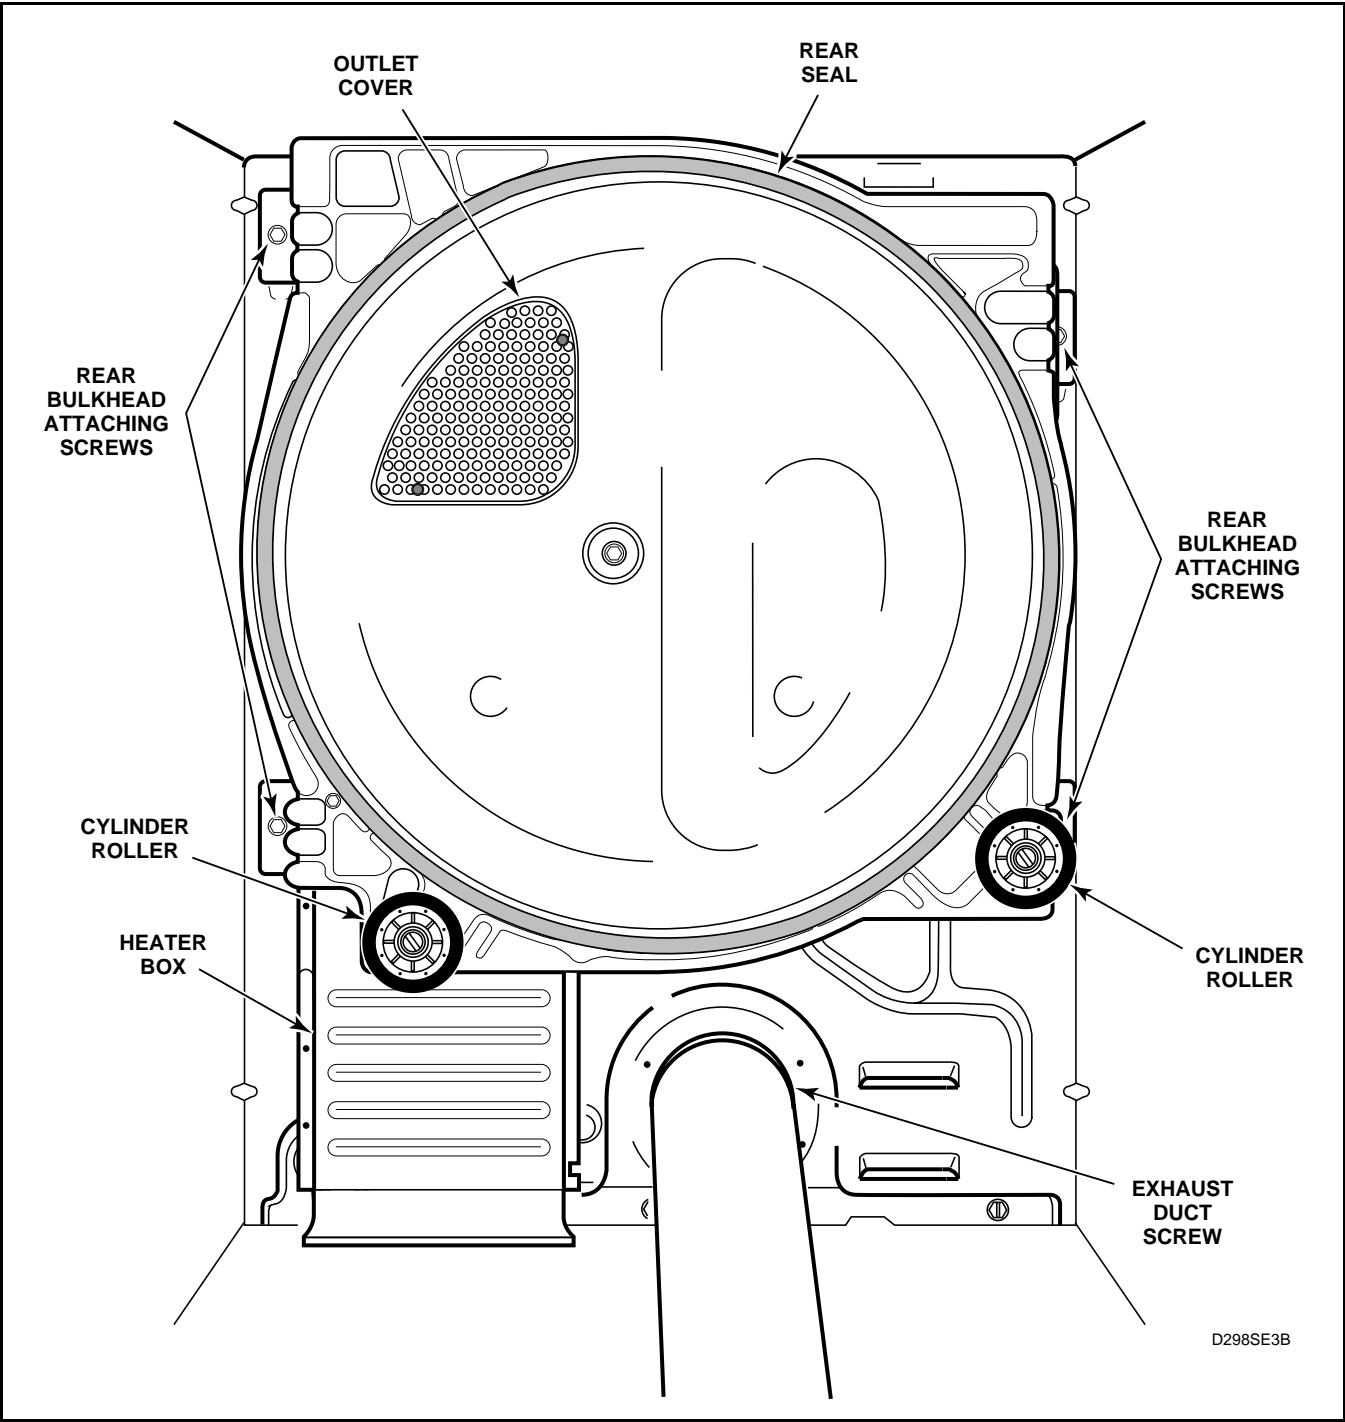

Figure 37
- j. Pull rear cylinder seal from flanged edge of bulkhead. See *Figure 37*.
- Open door and remove two screws holding outlet cover to rear bulkhead. See *Figure 37*.
- k. While supporting bulkhead, remove the four screws holding rear bulkhead to dryer cabinet, then lift complete assembly out of dryer. See *Figure 37*.